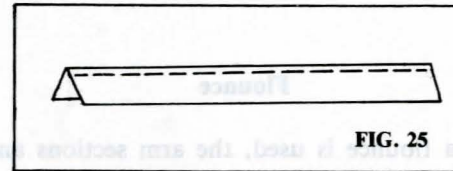

FIG. 25
**To Apply Zipper**—Join the two pieces with 1" seam down the center and stitch 1 1/2" by machine. Secure the thread, and then baste to within 1 1/2" of the other end which is machine stitched (Figure 25). Press the seam open.